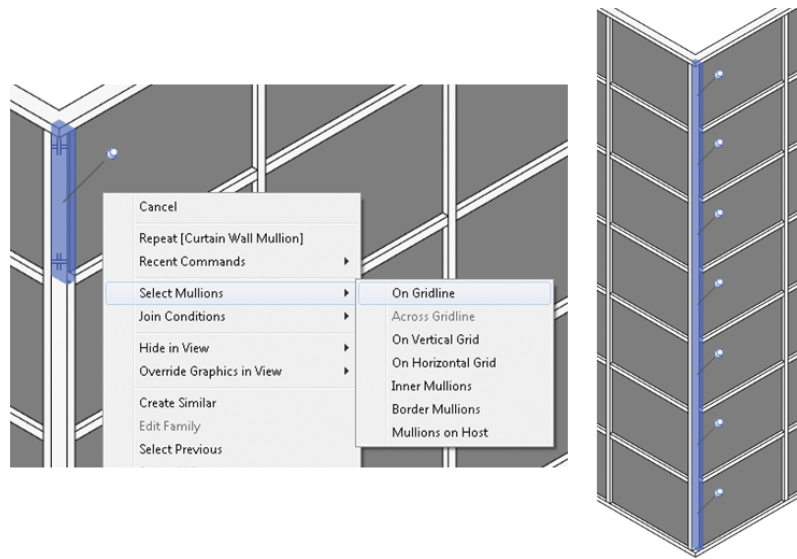

FIGURE 2.23 Mullions selected on grid line
6. From the 3D view hover the cursor over one of the border curtain mullions (it doesn't matter which you choose). Press the Tab key until the mullion is highlighted; then left-click to select it. While the mullion is selected, right-click and choose **Select Mullions > On Gridline**. This will select every mullion on this last grid line (Figure 2.23).